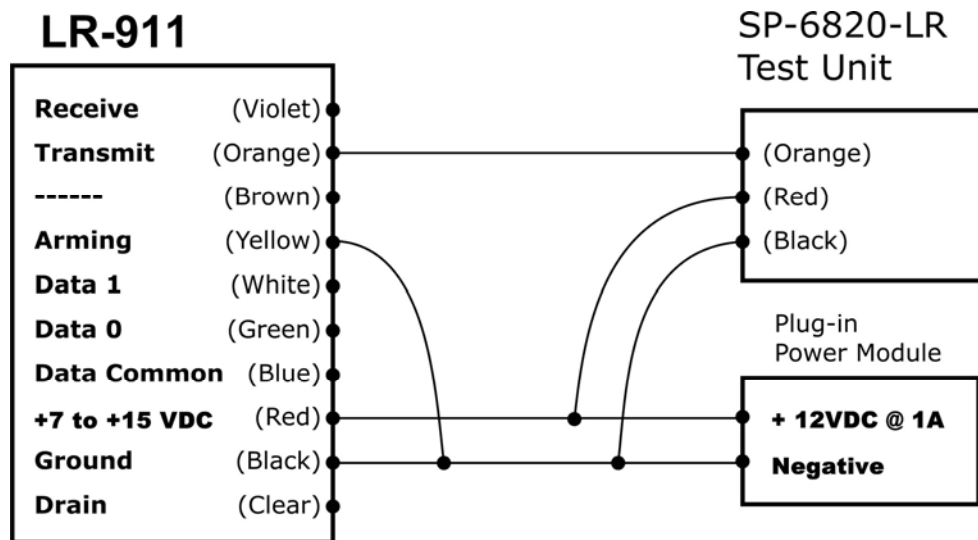

Figure 2. Wiring for quick test.
| <ul style="list-style-type: none"><li>• LR-911 reader (It does not contain an LED.)</li><li>• GMWS and MT tags (26-bit code) *</li><li>• SP-6820-LR test unit, cable with 3 clips *</li></ul> | <ul style="list-style-type: none"><li>• PS-12-1A power module, cable with 2 clips *</li><li>• Wiring diagram, Figure 2 (below)</li></ul> <p>* A component of the LR-911KIT Test &amp; Set-up Kit</p> |
- Connect the wires as shown in the wiring diagram, Figure 2 (below).
This step should be taken before the tags are installed in or on the vehicles. From the LR-911KIT Test & Set-up Kit, use the test unit, and one of the hand-held test tags, and the wiring diagram in Figure 2 on page 6. The reader does not have to be interfaced with the host system (but they *may* be connected together). Use the DC power module from the LR-911KIT Test & Set-up Kit *only* if the independent DC power supply is not yet connected.